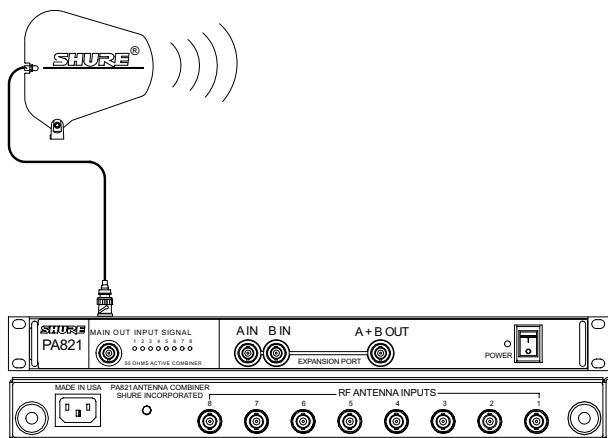

FIGURE 1
2. Attach an antenna to the **MAIN OUT** of PA821. For wideband applications, use PA805WB directional antenna (Figure 1).
**NOTE:** When the PA821 is powered on, the input signal indicators (1-8) on the front panel will illuminate if an active transmitter is connected to the corresponding input (1-8) on the back panel (Figure 1).